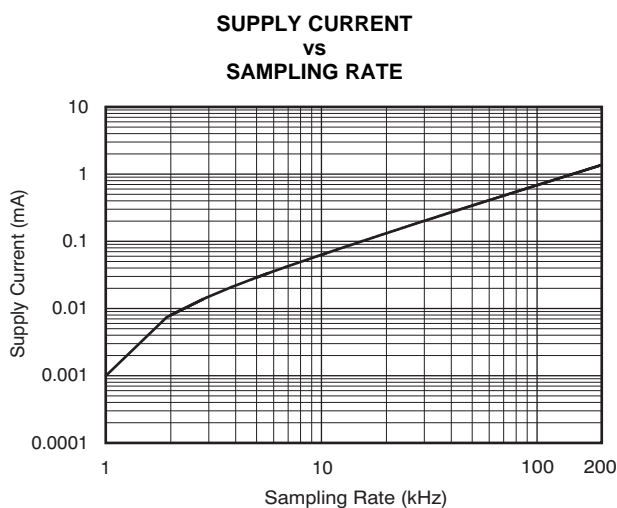
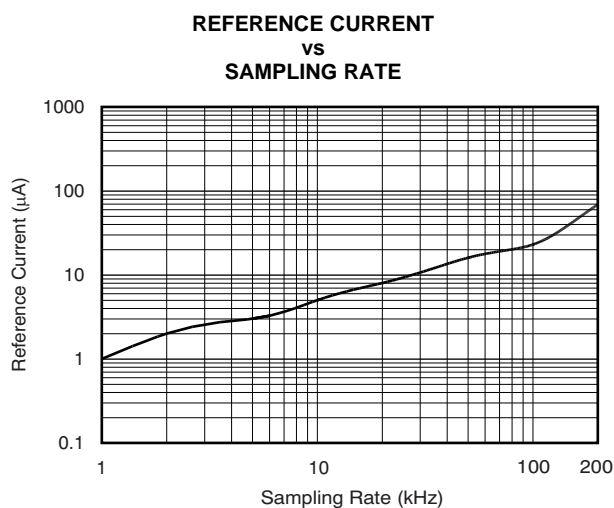

Figure 35.
Figure 36.
Figure 17 and Figure 18 (+5V), and Figure 35 and Figure 36 illustrate the current consumption of the ADS8326 versus sample rate. For these graphs, the converter is clocked at maximum speed regardless of the sample rate.  $\overline{CS}$  is held high during the remaining sample period.
• Changed y-axis unit in <a href="#">Figure 35</a> from $\mu\text{A}$ to mA .....	<a href="#">18</a>